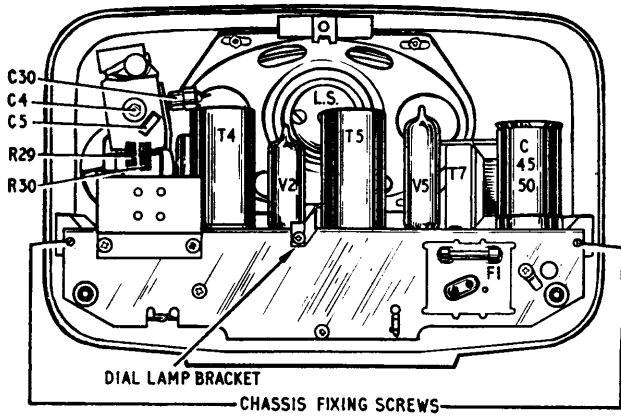

FIG. 1
- 3 To replace dial lamp, remove screw securing dial lamp bracket see Fig. 1. Replace with 6.5 v. 0.3 amp. lamp.